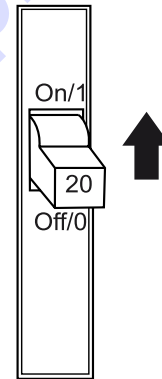

Figure 94. GFCI Circuit Breaker
2. Place a GFCI circuit breaker (Figure 94) in the **ON** position.